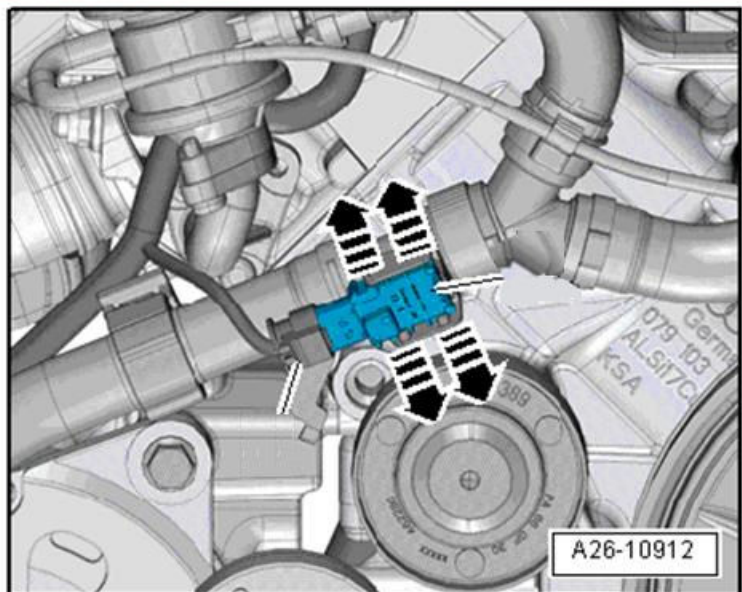

Figure 4. Securing clips for the G-609 sensor (arrows).
- Secondary air injection sensor 1 (G-609) (**06E906052**). If the two securing clips (Figure 4) for the G-609 sensor are damaged, the SAI pump pressure hose must be replaced.